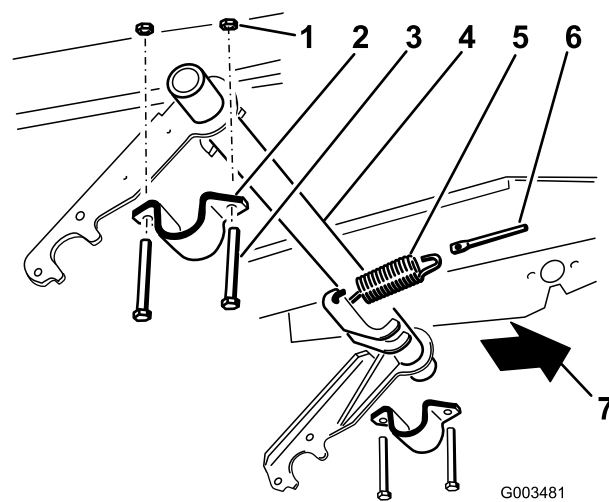

Figure 5
1. Connect the extension spring to one of the spring levers on the pivot tube and to the spring rod (Figure 5).
2. Loosely install the pivot tube bracket onto the right side (Figure 5).
3. Slide the right-hand side of the pivot tube into the right side pivot tube bracket (Figure 5).
5. Raise the left-hand side of the pivot tube to the frame and install it with a pivot tube bracket, 2 bolts (3/8 x 3 inch), and 2 locknuts (3/8 inch) (Figure 5).